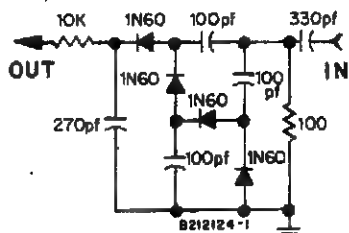

Fig. 4-10. — Quadrupler Detector
8. Connect quadrupler detector (Fig. 4-10) to J3502. Connect oscilloscope (or D.C. Voltmeter) to quadrupler detector and set oscilloscope on DC @ 10 mV/Div.